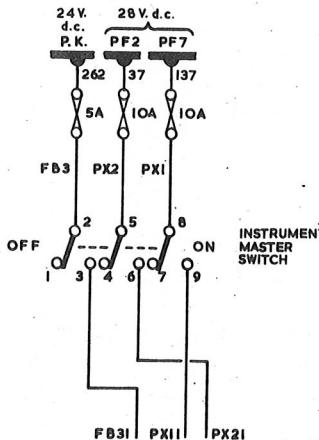
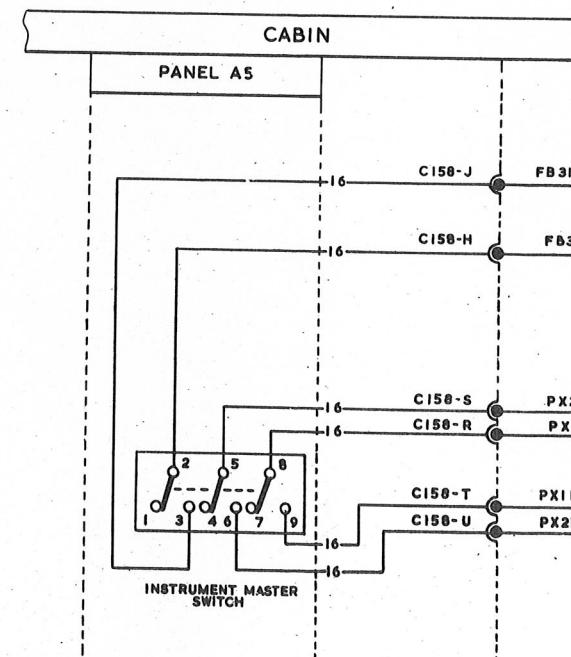

Fig. 1. Alteration to App.1, fig.1 by Mod. 4377
Fig. 2. Alteration to App.1, fig.2 by Mod. 4377
1. This modification provides a Type LHA 3-BG-201 instrument master switch, Ref.No.5CW/9916, in lieu of Type 7690/B101, Ref.No.5CW/8825, and affects the aircraft in the post Mod. 4302 state (App.1). The alterations to Appendix 1, fig.1 and fig.2 are shown in fig.1 and fig.2 below.